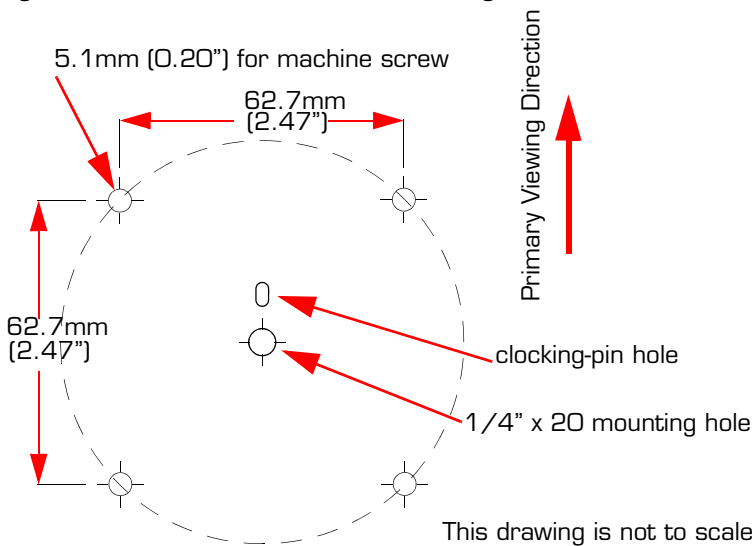

Figure 3-3: Base Mounting Template for the Camera
Step 1 Drill the screw mounting holes per the installation template provided in paragraph 7.1 “Camera Mounting Template.” on page 23. A sketch is shown below in Figure 3-3.